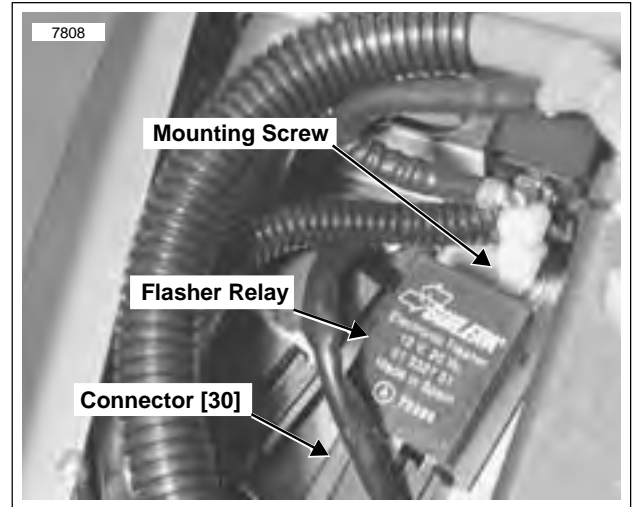

Figure 7-73. Turn Signal Flasher
4. See Figure 7-73. Remove screw and flasher relay from frame tray.
1. See Figure 7-73. Connect relay connector [30] to new turn signal flasher relay.